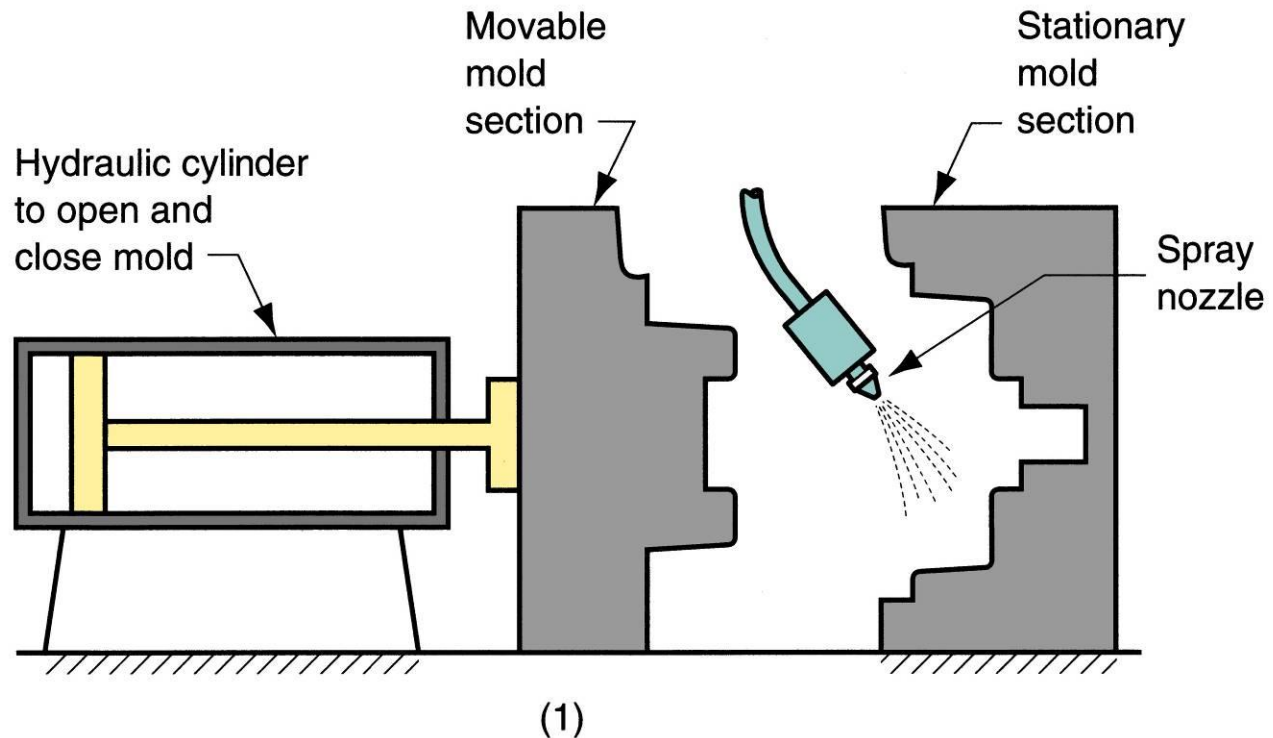

Figure 11.10 Steps in permanent mold casting: (1) mold is preheated and coated
Figure 11.10 Steps in permanent mold casting: (2) cores (if used) are inserted and mold is closed, (3) molten metal is poured into the mold, where it solidifies.